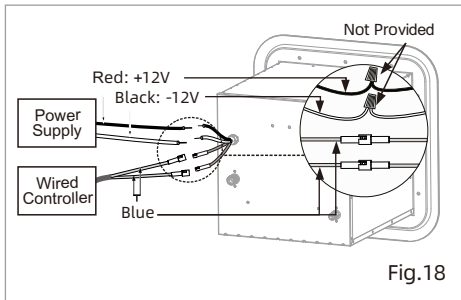

Fig.18
2. Connect the power supply wires (on rear of water heater- red and black wire) to the appropriate nominal 12V DC power source connection. (Fig.18)
3. Connect the wall controller wires (2 blue wires on the appliance). (Fig.18)